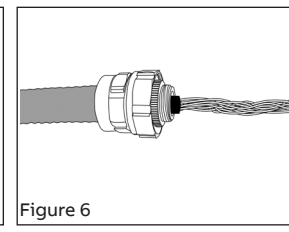

Figure 6
- Trim inner jacket (to length of 1/8"-3/8") and expose conductor bundle (Figure 6). Refer to Section 2 for specific instructions for shielded data cables.